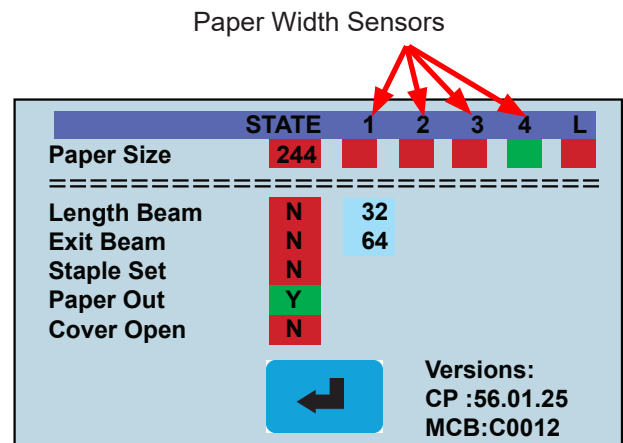

Fig. 58
1. From the Service mode menu select the Sensor Test Icon “”. The Sensor Test Screen will be displayed (Fig. 58).